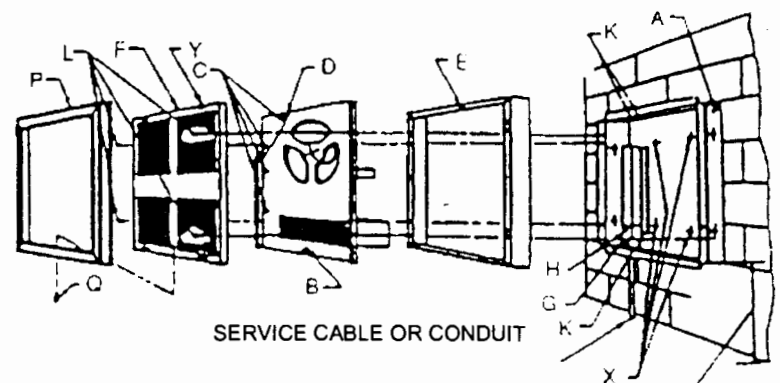

FIG.2 Surface Mounted
- Surface mounting, See Fig. 2.